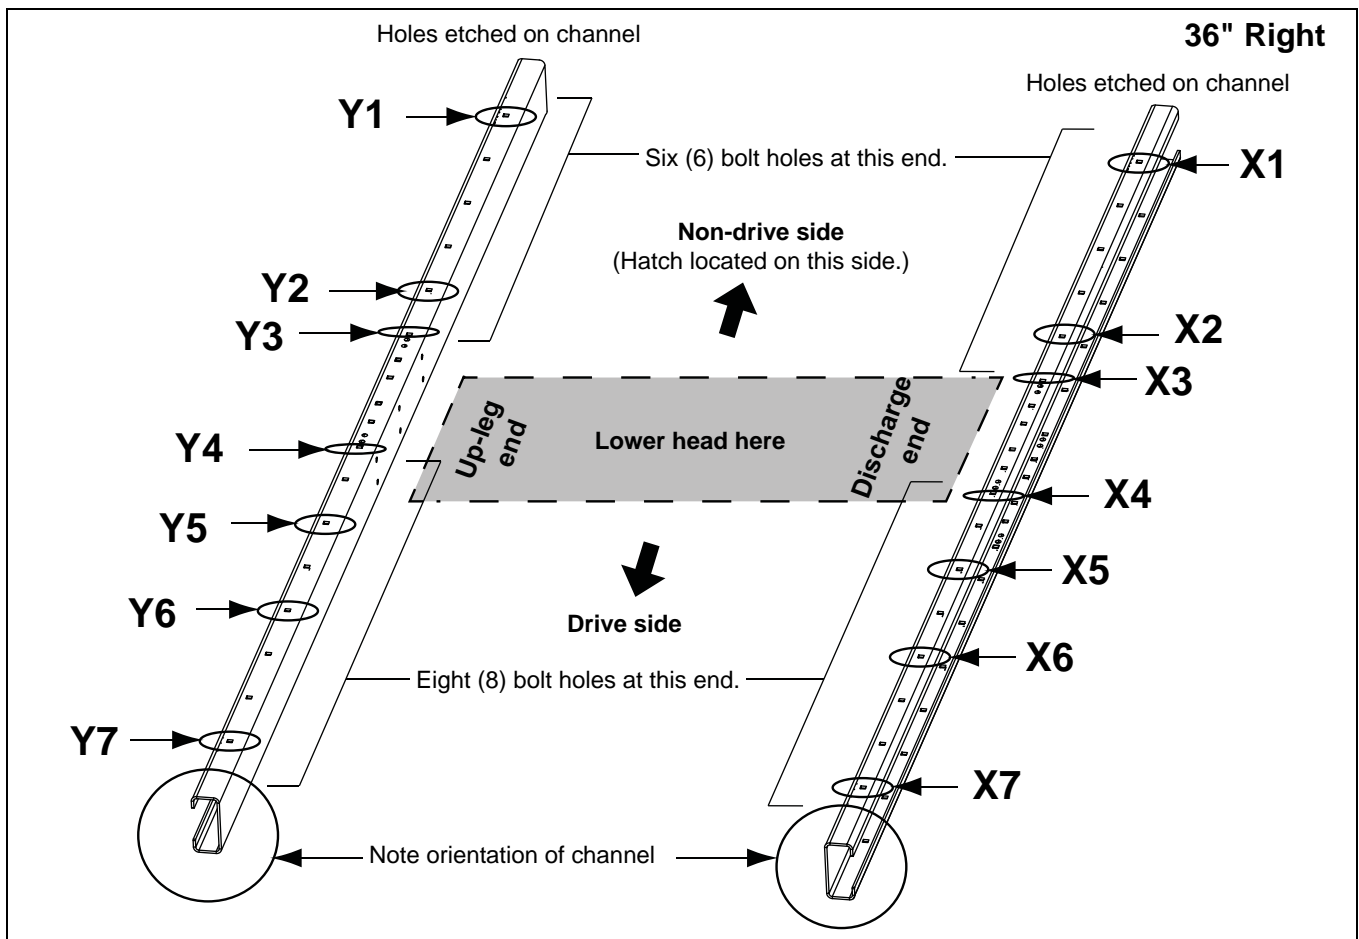
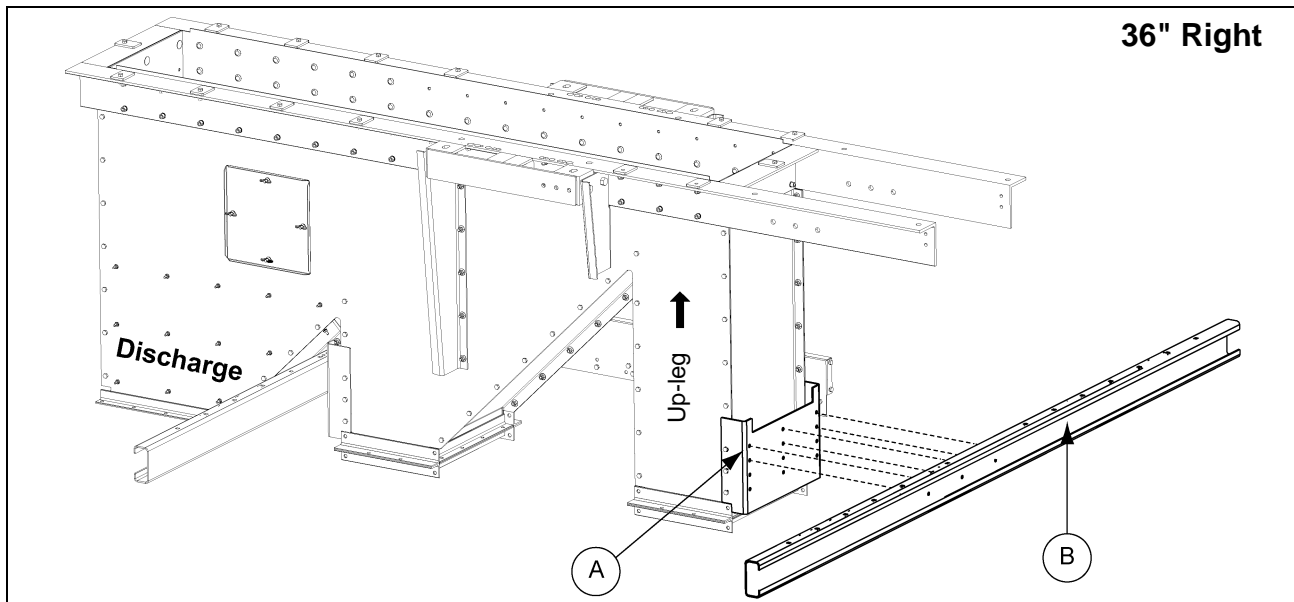

Figure 8D 36" Right Side Drive Channel Position
Figure 8E
(See Figure 8D on Page 55.)
3. Attach cross deck support channels (HP36CDSCX) to the top-most set of holes of the lower head brackets (HSP36130) using 3/8" x 1" bolts and nuts and torque properly. (See Figure 8E on Page 55.)
- *NOTE:** *The channels MUST be oriented as shown in Figure 8D and Figure 8E on Page 55 in order for the decking and subsequent assembly to be done correctly.*